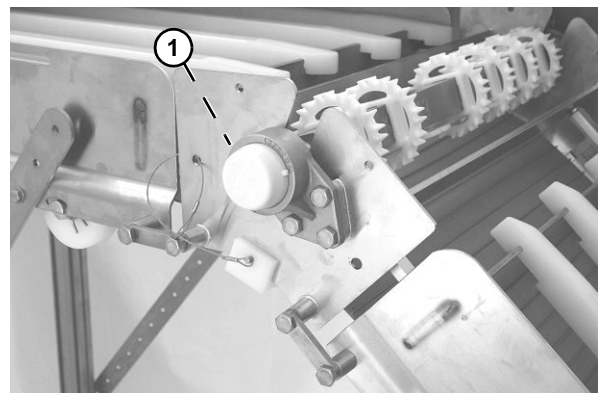

Figure 42
2. On LPZ knuckles, add grease to grease fitting (Figure 42, item 1).